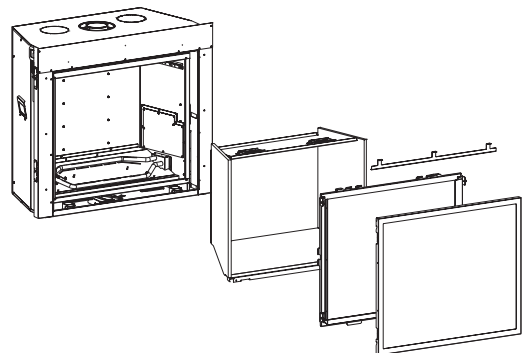

Figure 6
1. Remove the following items. **See Figure 6.**
9. Replace Glass Frame, Screen Barrier, and liners removed in Step 1 (**Figure 6**).